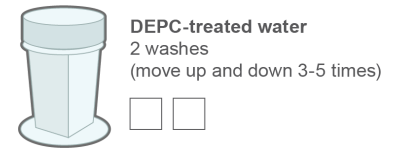

Figure 9: DEPC-treated water wash
12. Move slides up and down 3-5 times to wash. Transfer slides to a new jar of DEPC-treated water and repeat wash (Figure 9).